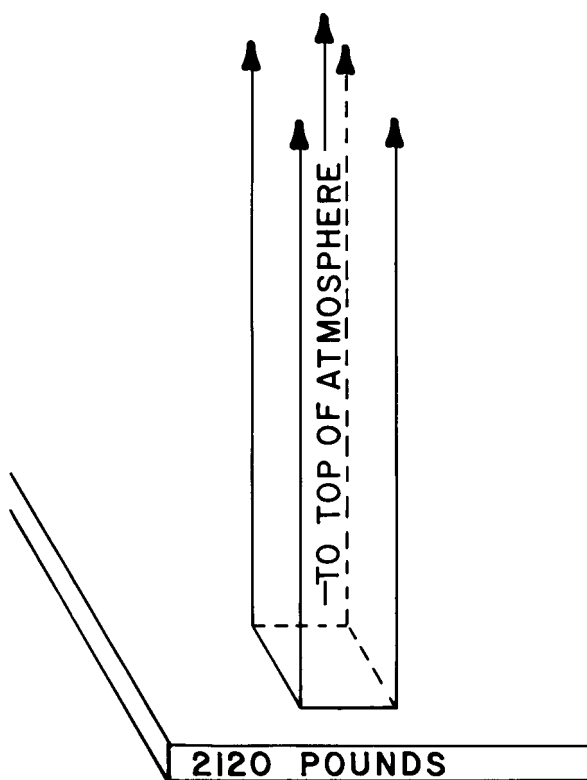

Figure 21.
You have seen that pressure in a liquid depends on both its density and the depth. The same is true for gases. We live at the bottom of an “ocean” of air, and the pressure of the atmosphere is significant. However, the density of the atmosphere varies with altitude, so Equation (7) can't be used to compute air pressure. Figure 21 shows that a column of air 1 ft² in cross-sectional area, and extending to the top of the atmosphere, weighs over a ton! The pressure at the bottom of this column can be calculated.